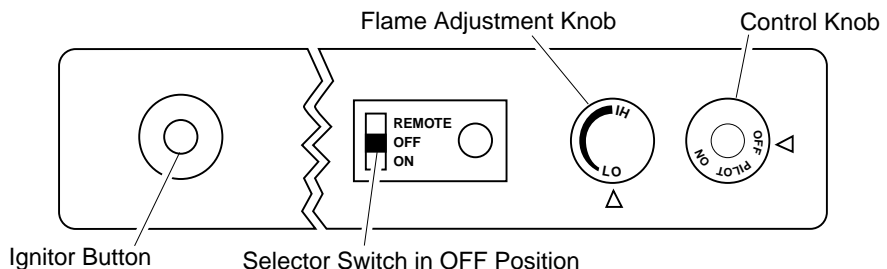

Figure 30 - Control Knob and Ignitor Button Location
5. Wait five (5) minutes to clear out any gas. Then smell for gas, including near the floor. If you smell gas, STOP! Follow "B" in the safety information, column 1. If you don't smell gas, go to the next step.
6. Press in and turn control knob counterclockwise to the PILOT position. Press in control knob for five (5) seconds (see Figure 30).